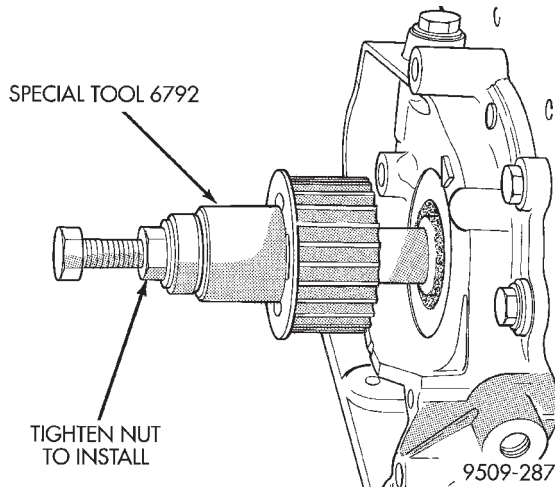

Fig. 113 Crankshaft Sprocket—Installation
- (7) Install crankshaft sprocket, using Special Tool 6792 (Fig. 113).
- (8) Install oil pump pick-up tube and oil pan.
- (9) Install timing belt. Refer to procedure in this section.
- (10) Connect negative cable to battery.